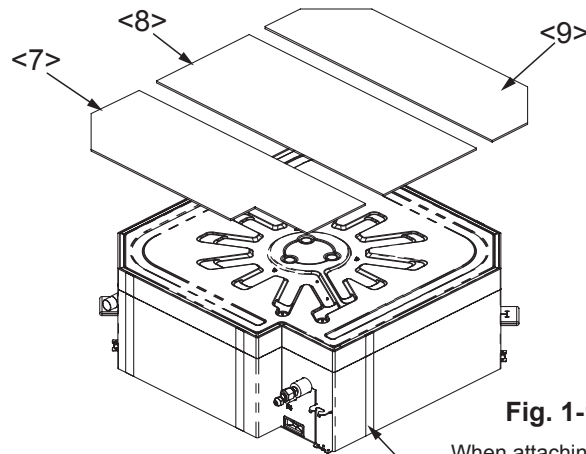

Fig. 1-11-13
4. Attach the ceiling insulators <7> to <9> in such a way that no gaps are left. (Fig. 1-11-13)